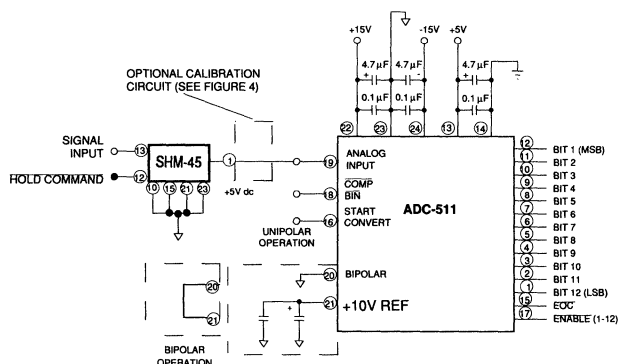

Figure 2. Typical Input Connections for the ADC-511
1. Applications unaffected by endpoint errors or those that remove them through software will use the typical connections shown in Figure 2. The optional external circuitry of Figure 4 removes system errors or helps adjust the small initial errors of the ADC-511 to zero. The external adjustment circuit has no effect on the throughput rate. Table 1 shows how to select the input range.
1. The data outputs should be connected to LED's to observe the resulting data values. Connect the converter per Figure 2, Figure 4, and Table 1 for the appropriate Full Scale Range (FSR). Apply a pulse of 200 nanoseconds minimum to the START CONVERT input (pin 16) at a rate of 250 KHz. This rate is chosen to reduce flicker if LED's are used on the outputs for calibration purposes.